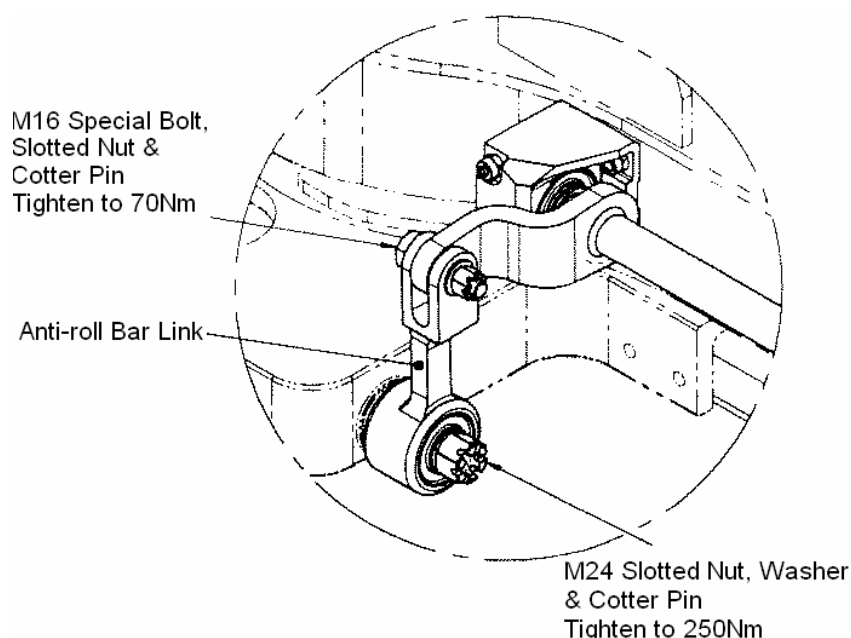

Figure 1.5: Assembly of Links to Improved Anti-roll Bar
- 1.9.4 Fit Anti-roll Bar links to bearing spindles on spring plank castings. Check that each link is the correct way round (see Figure 1.5).